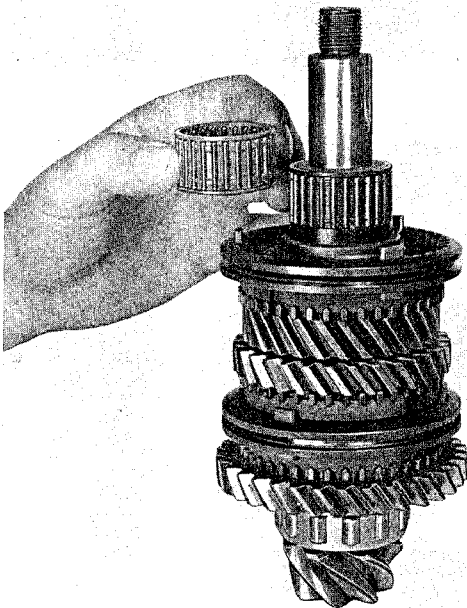

Fig. 7
2. Install new fourth gear inner bearing race (bearing sleeve) and install needle bearing for third gear. This bearing has a smaller cage as shown in Fig. 7.